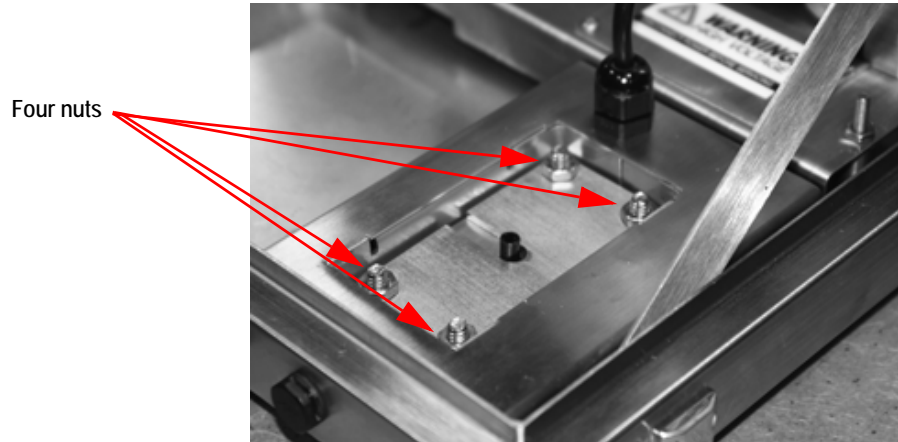

Figure 1-4. Split Communications Cable Assembly
4. The split communications cable plate is made up of several individual pieces that are shown in Figure 1-4.